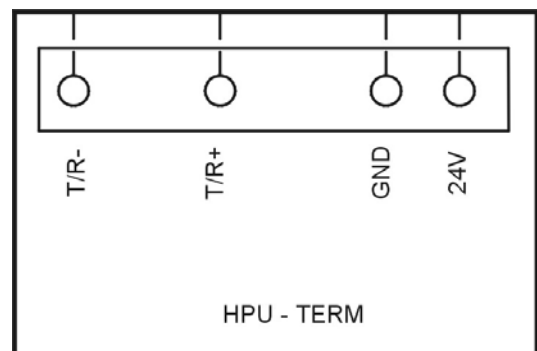

Figure 1-29
- Connect to the bottom of these wires a HPU Termination board. [See Figure 1-29.]